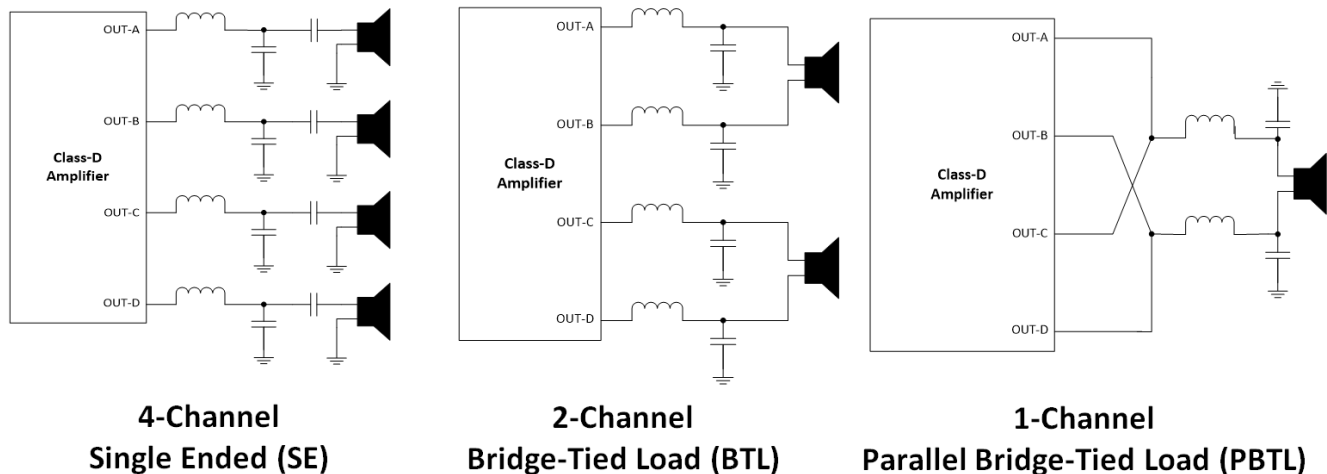

Figure 3. Various Output Configurations
Generally, a Class-D amplifier can be manipulated to provide different levels of power by topology. For example, a Class-D amplifier with four half-bridges can drive 4, 2 or even just 1 channel. These topologies are referred to as single-ended (SE), bridge-tied load (BTL), and parallel bridge-tied load (PBTL). Bridging two outputs effectively doubles the voltage across the load, while configuring them in parallel allows double the current. In theory, doubling the voltage and current in mode PBTL should quadruple the power, but since amplifiers have voltage and current limitations, running in PBTL typically only allows for more power into smaller loads. These output configurations can be seen in Figure 3. For more information on output configurations, visit section one of the LC Filter Design application note.